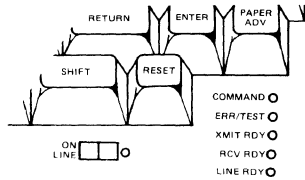

Figure 3-6. LED Indicators (783, 785, 787)
3.2.1.3 Indicators. Six LED indicators are adjacent to the keyboard on the KSR operator's panel as shown in Figure 3-6. These indicators provide terminal status.